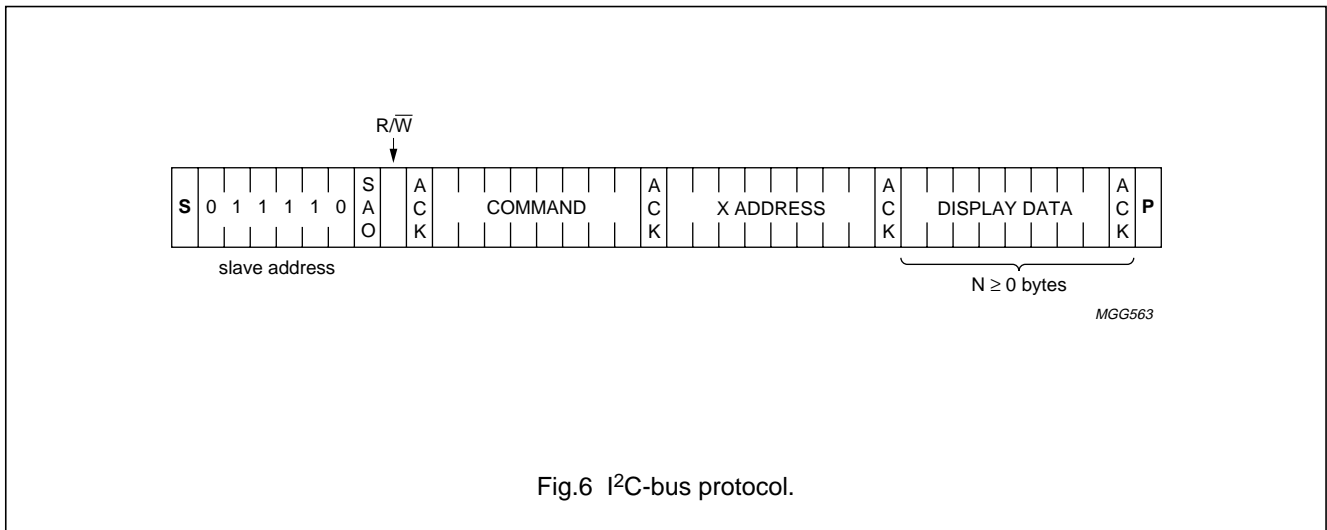

Fig.6 I2C-bus protocol.
The I2C-bus protocol is shown in Fig.6. All communications are initiated with a START condition (S) from the I2C-bus master, which is followed by the desired slave address and write bit. All devices with this slave address acknowledge in parallel. All other devices ignore the bus transfer.